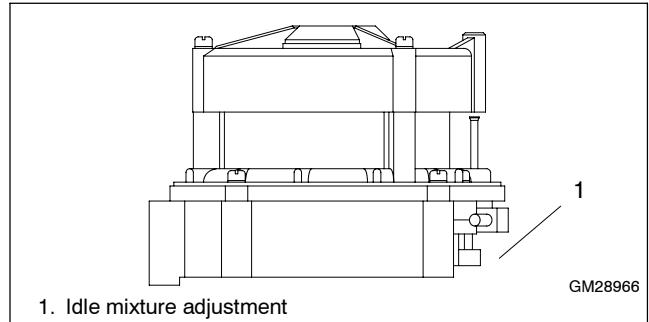

Figure 7-47 100/125 kW with Nolff 475 Style Fuel Mixer
c. **100/125 kW generator sets.** Nolff N16-475-5A and N16-475-9A style gas mixers used on 80 kW 8.1 L GM and 125 kW 8.1 L GM turbocharged engines. See Figure 7-47. This gas mixer style does not have a fuel mixture adjustment.
- Adjust the idle mixture adjustment (Figure 7-47) to obtain a no load oxygen sensor voltage reading within specifications.